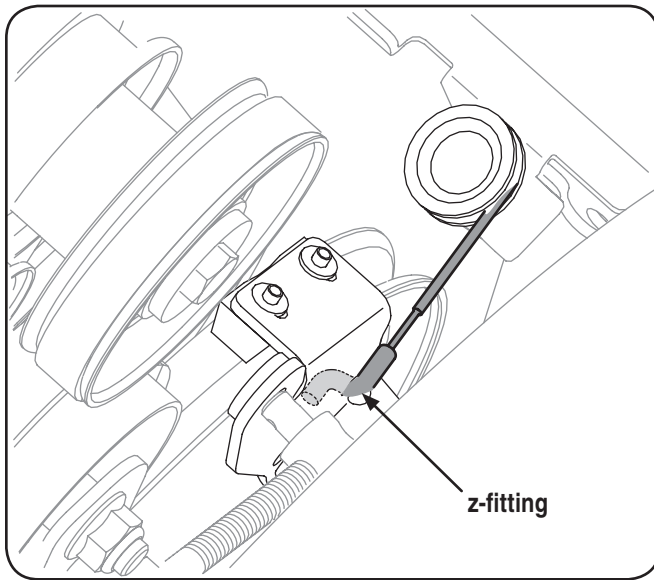

Figure 8-5
3. Pull the brake bracket assembly towards the cable guide roller and unhook the auger cable "Z" fitting. Refer to Fig. 8-5.